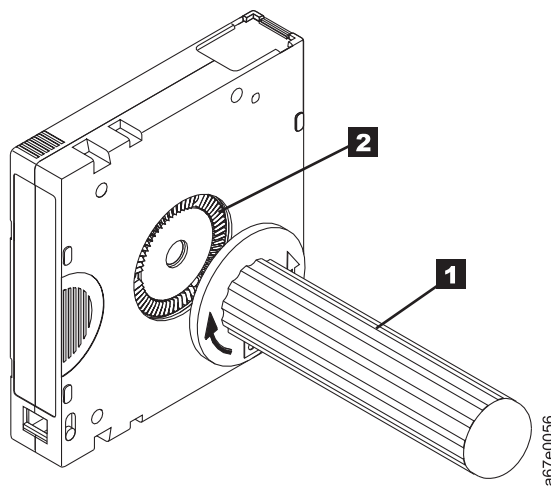

Figure 4-10. Rewinding the tape into the cartridge
5. To rewind the tape, insert the cartridge manual rewind tool ( **1** in Figure 4-10) into the cartridge's hub ( **2** ) and turn it clockwise until the tape becomes taut.